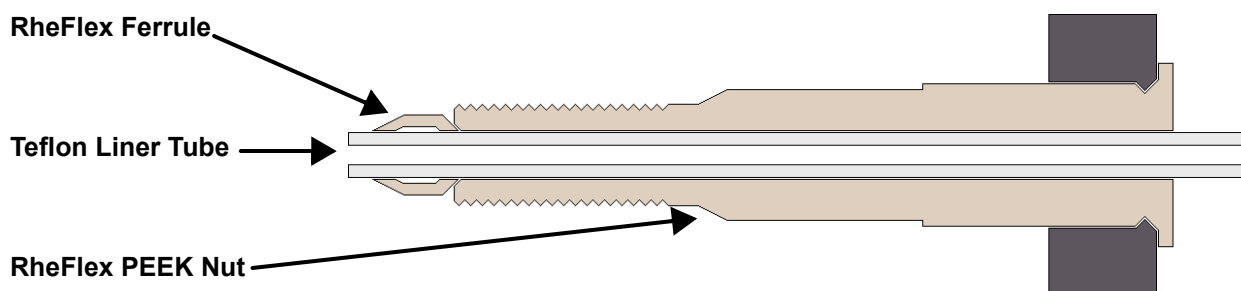

Figure 8-5. Needle port fitting, P/N 00110-22030
- a. Insert the liner tube, RheFlex ferrule, and the threaded portion of the RheFlex nut (see Figure 8-5) into port 5 of the divert/inject valve.